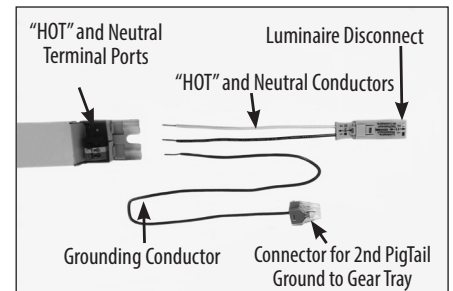

Figure 4: Connecting the "HOT", Neutral, and Ground Conductors to the Terminal Ports on the LED Driver.
- Connect the Black (Hot) and White (Neutral) conductors to the designated color-coded ports and press down the respective button and push the stripped copper lead for each conductor. See Figure 4. These two (2) conductors bring power from the incoming supply to the LED Driver.
- To ensure safe operation the Installer should "ground-bond" the LED Driver and the gear tray by first inserting the stripped end of the long Green Ground Bonding PigTail into the Green port on the LED Driver, similar to the installation of the Black and White conductors as shown in Figure 4.